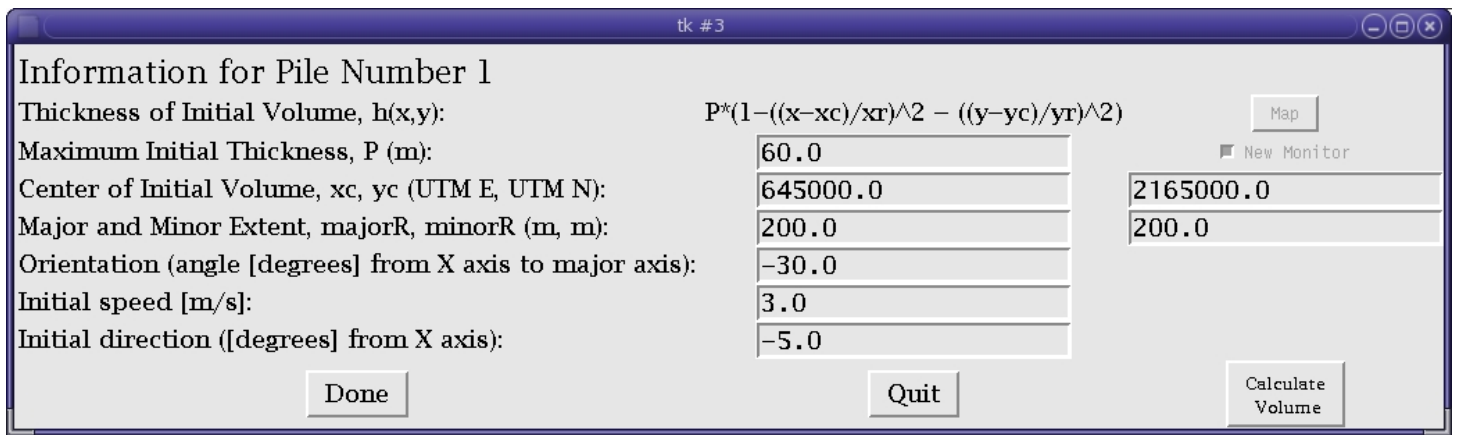

Figure 3.6: Pop-up window for entering initial pile conditions
- Figure 3.6 shows the pop-up window used for specifying the pile dimensions and locations. This window appears if a non-zero number of piles was specified in the main data-entry window. The first line in the window states the pile number for which the dimensions are being entered. In order for the user to specify an initial pile geometry that can vary, the pile has a defined shape of a paraboloid given by the equation $P * (1 - ((x - xc)/xr)^2 - ((y - yc)/yr)^2)$ (assuming an orientation angle of zero). The data to be entered by the user are: Maximum Initial Thickness, P (in meters), Center of Initial Volume,xc,yc (in UTM coordinates), the Major and Minor Extent, majorR, minorR of the initial pile (in meters), the Orientation (angle [degrees] from X axis to major axis), and its
If two or more piles are being used and they overlap, the larger of the two pile heights will be taken as the pile height at the grid point. There are three buttons on the bottom of this window. When the **Done** button is selected, the pile parameters are entered into the GUI. The **Quit** button will close the pile dimensions window. If more than one pile needs to be specified, a new pile dimension window will appear when the *Quit* button is selected. Once the parameters for all the piles have been specified, then the data will be submitted. The **Calculate Volume** button (figure 3.6) will calculate the volume for the individual piles using the pile height and the X and Y extents. The volume is given in cubic meters and assumes there are no overlapping piles.
- Enter the model parameters into the GUI (as explained in section 3) and press the **Run** button. After entering the friction angle data you will be presented with a pile information pop-up window (fig 3.6).